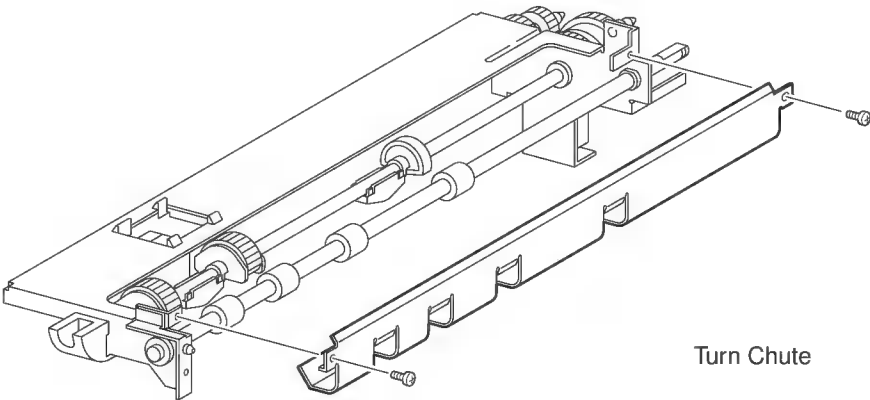

Figure 1
4. Remove the two screws securing the Turn Cover to the LCIF Drive Assembly and remove the Turn Cover (Figure 1).